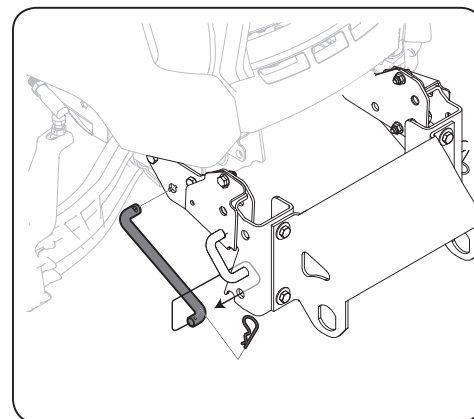

Figure 2-5
4. Install slotted end of tie rod (747-06957) into bracket mounted on tractor frame and then rotate and secure other end of tie rod into hole and secure with 2 cotter pins (714-3020) found in hardware pack 2 (689-00678). See Figure 2-5.